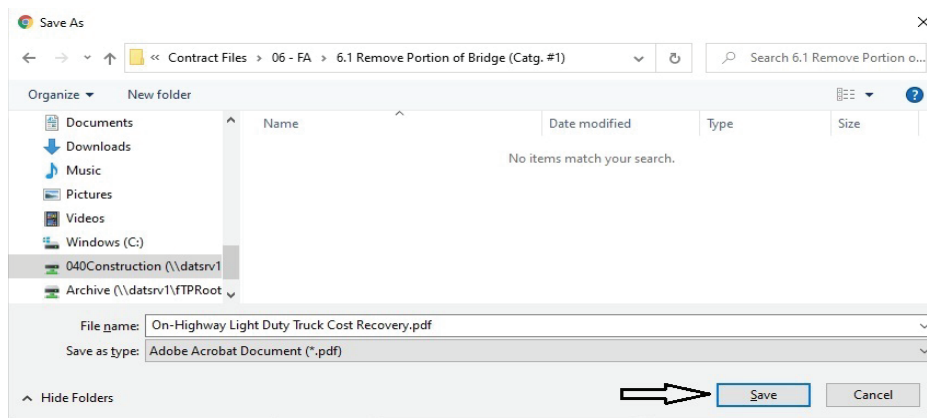

Figure 4-14: Save As Window
- vii. Print the report to a PDF file, following the browser print options, and save to the EDOC Contract Files\Contract Files\06 - FA\6.# [Name of the Force Account] directory and click on the Save button (Figure 4-14).